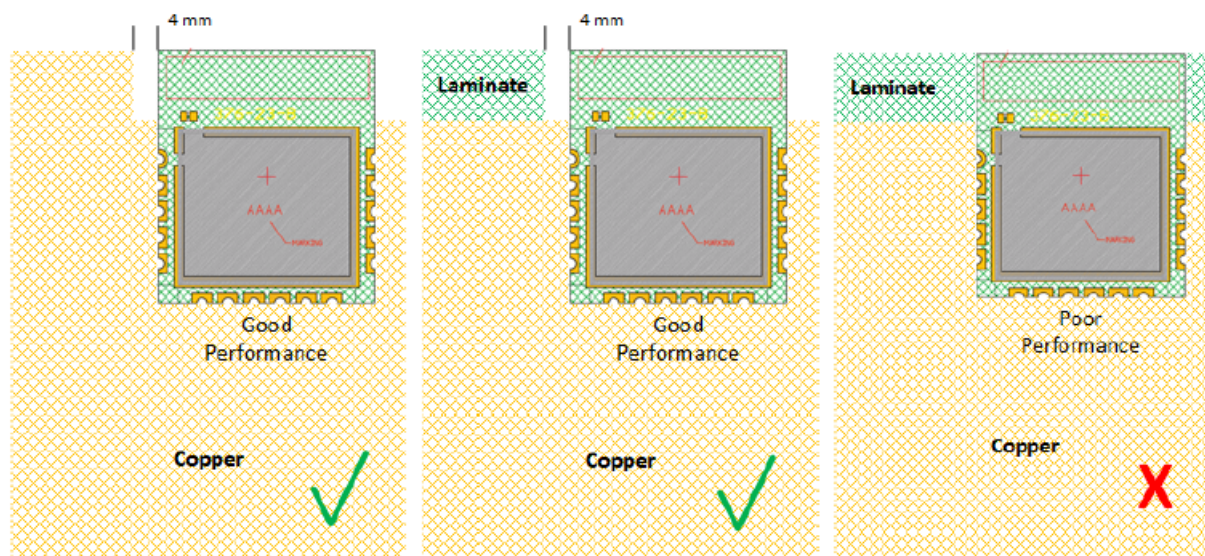

Figure 11: Antenna Performance in Proximity of Copper (Left), Laminate (Middle), and Laminate under Antenna (Right)
- The antenna should have 4 mm free space in all directions. Copper or laminate in the proximity of the PCB trace antenna will affect the efficiency of the antenna. Laminate or copper under the antenna should be avoided as it severely affects the performance of the antenna. The antenna keep-out area can be seen in Figure 11.